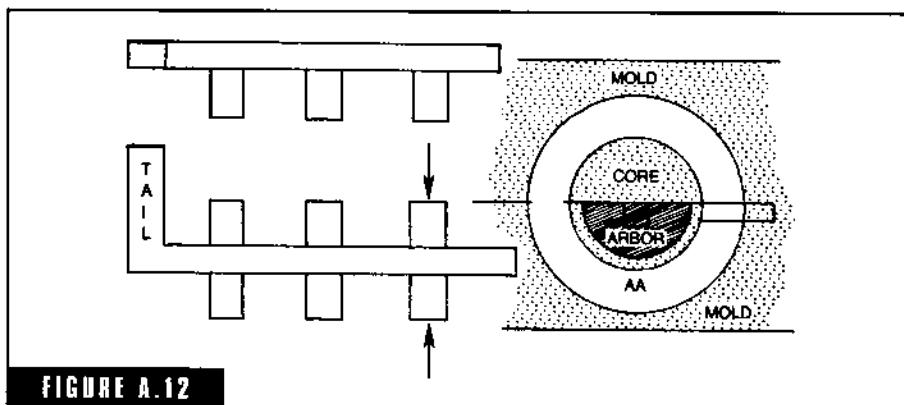

FIGURE A.12
**arbor** A metal (cast or fabricated) form used to support a dry sand or green sand core or mold body for strength (Fig. A-12). Also used extensively in heavy loam molding. Sometimes called a *crab*.